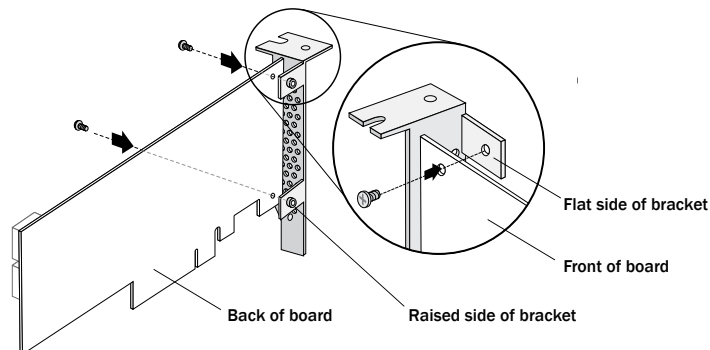

Figure 3
2. Attach the low-profile bracket to the controller board. The low-profile bracket is installed on the *back* side of the controller, with the mounting screws inserted from the front of the controller, as shown the Figure 3.
**Caution:** The mount points on the low-profile bracket have a smooth or flat side and a raised side that looks like a spacer (see Figure 3). Be sure to install the bracket with the flat side against the controller PCB and the raised side facing away from the PCB.